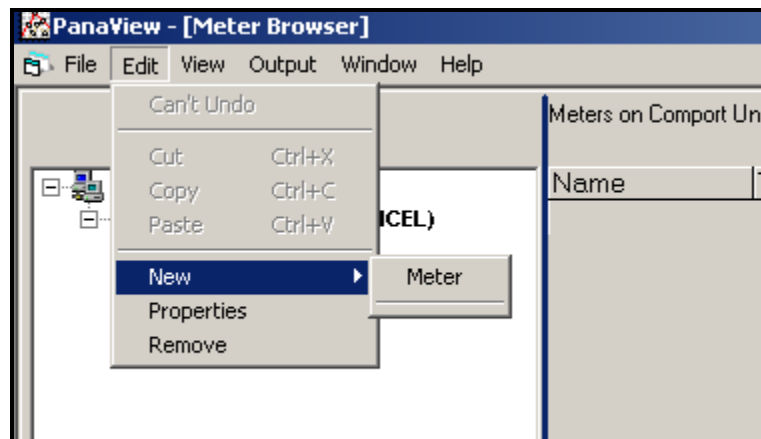

Figure 21: “*New*” Option in the “*Edit*” Menu
2. Click on the “*New*” option in the “*Edit*” menu (see Figure 21 below).